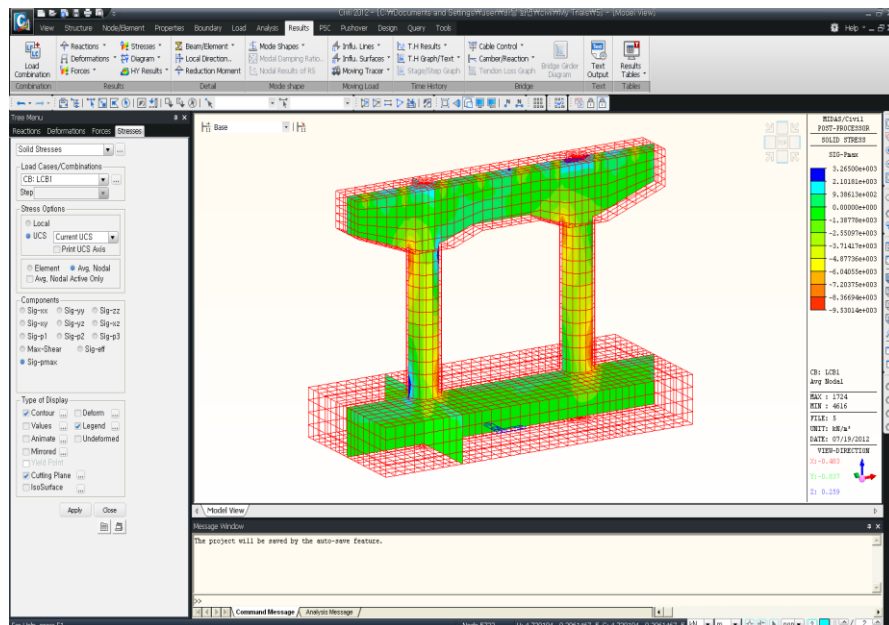

Figure 5.30 Resulting Stresses On Cutting Planes
6. Click the button  to the right of the **Cutting Plane** selection field (Fig.5.30).